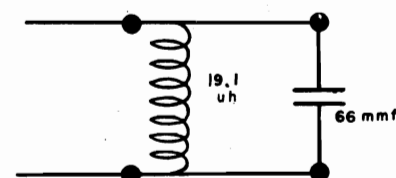

FIG. 2
- Shunt primary of FM antenna transformer with a 10 ohm carbon resistor and adjust (M) for maximum output. Remove shunt and place it across FM antenna transformer secondary and adjust (L) for maximum output. Remove shunt.
- Connect BC. dummy loop (Fig. 2) across loop terminals on rear of chassis.
2. Connect two 100,000 ohm resistors in series and connect these resistors from the No. 2 lug of the 6AL5 to the chassis. Connect an electronic voltmeter from the center of these resistors to the shielded lead junction of the 39,000 ohm resistor (75) and the .002 mfd. capacitor, (33). Adjust the ratio detector transformer secondary (C) for zero volts on the electronic voltmeter. Remove the two 100,000 ohm resistors.
3. Connect the electronic voltmeter across the 27,000 ohm load resistor (93) and adjust the primary of the core (D) of the ratio detector transformer (8) for maximum D. C. output.
5. Shunt the FM antenna transformer primary with a 10 ohm carbon resistor, and adjust the FM antenna secondary trimmer (M) for maximum output meter reading. Transfer the 10 ohm shunt to the secondary of FM antenna transformer. Adjust FM antenna primary trimmer (L) for maximum output meter reading. Remove the 10 ohm shunt resistor.
6. Connect the BC dummy loop antenna across the loop terminals on the rear of the chassis (see Figure 2,